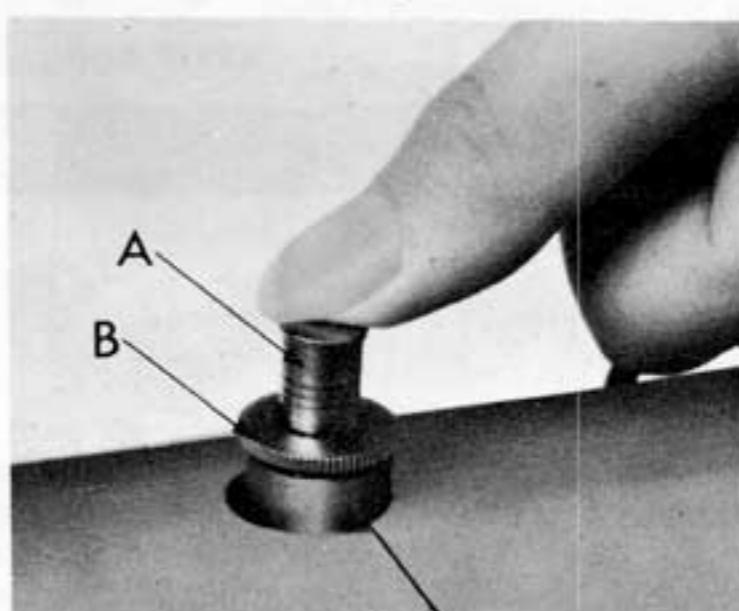

Fig. 20
2. To increase the pressure on the presser foot for sewing normal to heavy material, push the PRESSURE REGULATOR (A) gradually down until required pressure is obtained. (Fig. 20)